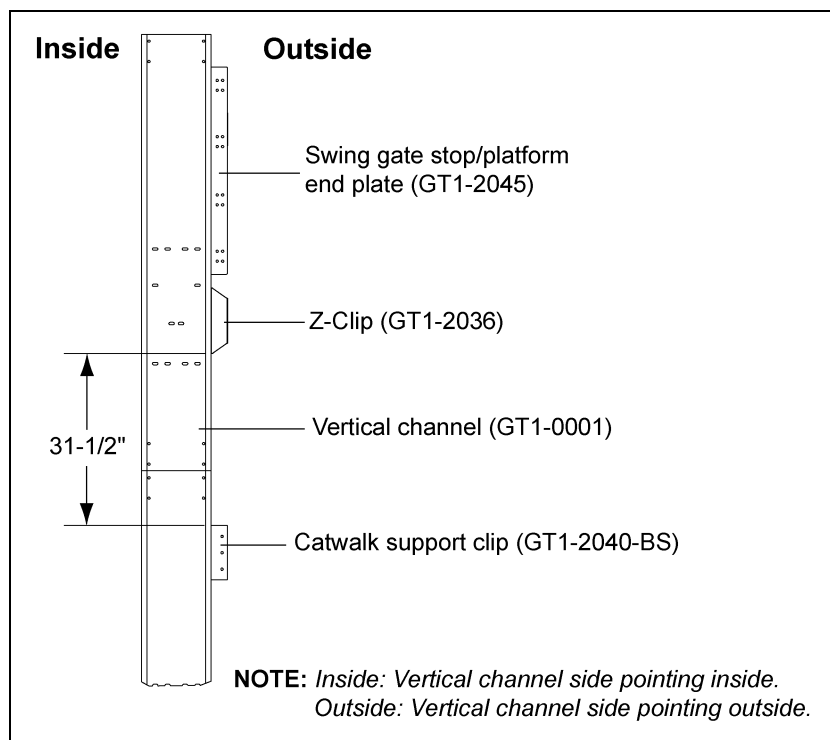

Figure 4F
2. The distance between the Z-clip and support clip for 30' outside catwalk is 31-1/2". (See Figure 4F.)